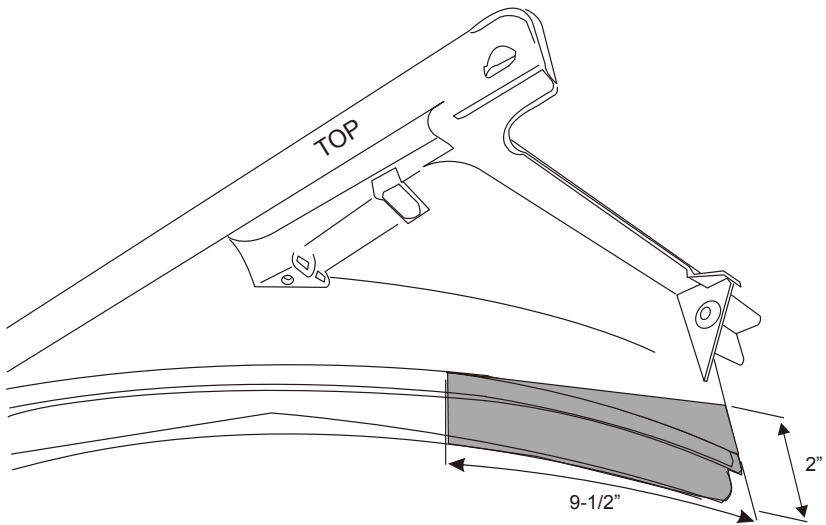

Figure 4.10
- Modify the upper fan shroud to provide clearance for the compressor clutch (Figure 4.10).